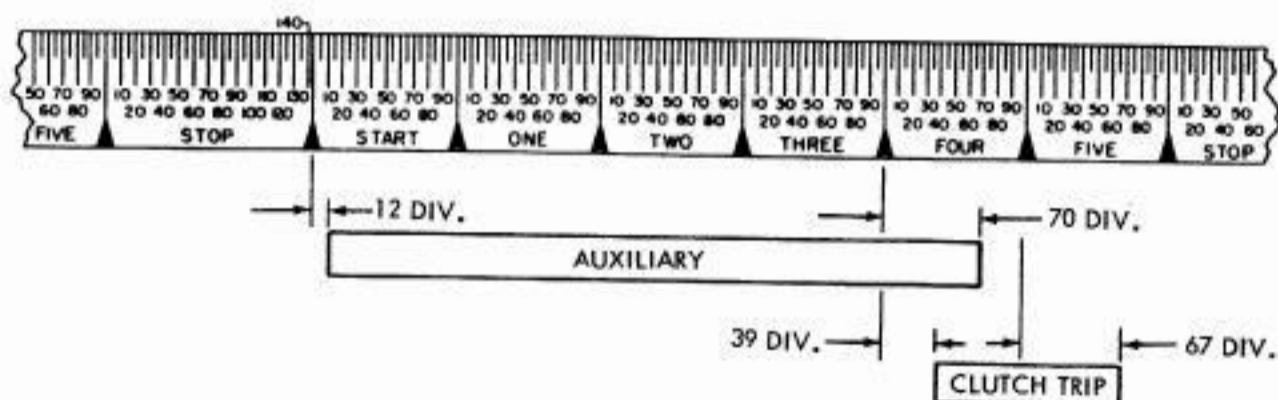

Fig. 7 — Pulse Length Requirements for Storing Switch Auxiliary Contacts (28B Unit Fixed Head)
(1) With the test set connected to the auxiliary contact, the contact shall **close** at 12 ± 30 divisions in start pulse segment of test-set scale and **open** at 70 ± 30 divisions in No. 4 pulse segment of test-set scale. (See Fig. 7.)
- (2) With the distributor clutch-trip contact electrically isolated from the circuit, the clutch-trip contact shall **close** at 39 ± 30 divisions in No. 4 pulse segment of the test-set scale and **open** at 67 ± 30 divisions in the No. 5 pulse segment of the test-set scale. (See Fig. 7.)